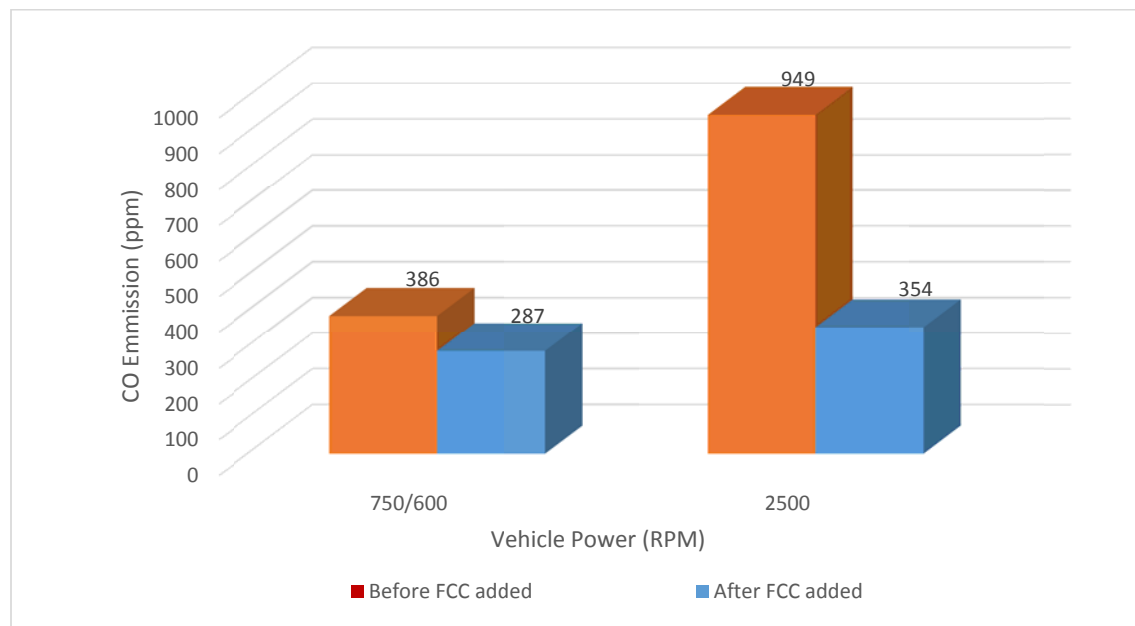

Figure 1: Toyota Hilux 150 - CO Emission Before and After FCC was added
The emission of carbon monoxide (CO) before and after the FCC was added had been investigated and recorded. The CO emission trends are presented graphically in Figure 1, extracted from results obtained from the lab test reports in Attachment 1 and 2.
Figure 1 shows the CO emission in the exhaust gas before and after the FCC additive, measure in part per million, during both minimum and maximum engine speeds